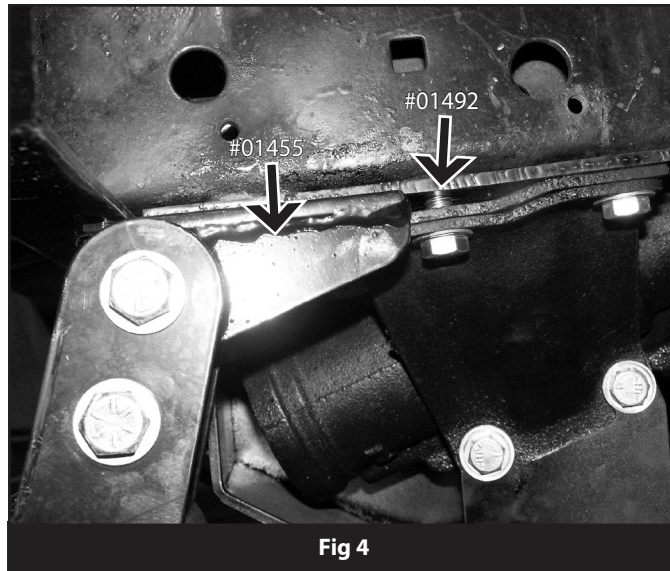
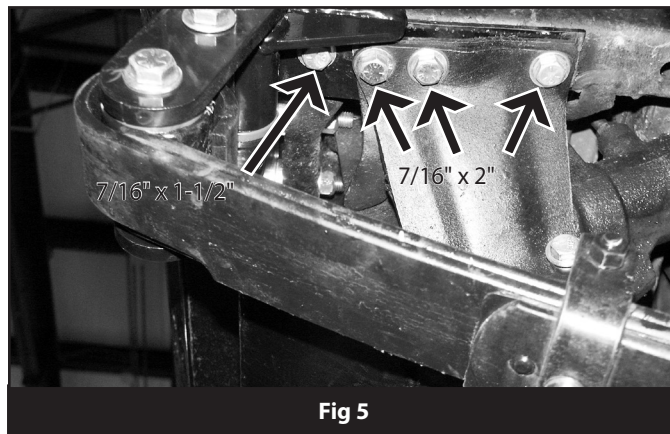

Fig 4
Fig 5
16. Install (#01492) driver's side steering box spacer above steering box bracket. Install 7/16" x 1-1/2" bolt with 7/16" SAE washer at rear most location, do not tighten at this time. (Fig 4)
17. Coat with grease and install the provided bushings (3625RB) and sleeves (37-1) in the four provided shackle hangers [(2) - 01455, (2) - 01456].
19. Install a 01455 driver's side hanger with 7/16" x 2" bolts and SAE washers from bolt pack #714. Mount the hanger with the forward hole aligned with the rivet hole and rear hanger hole with the old front hanger mount (See Fig 5, old rear mount is no longer used). Use loctite on the rear bolt and attached the front bolt through the frame with a 7/16" SAE washer and lock nut. Ensure that the hanger is square to the side of the frame and tighten all mounting hardware to 60 ft-lbs. (Fig 4 / Fig 5) Torque upper steering box mounting bolts to 60 ft-lbs.